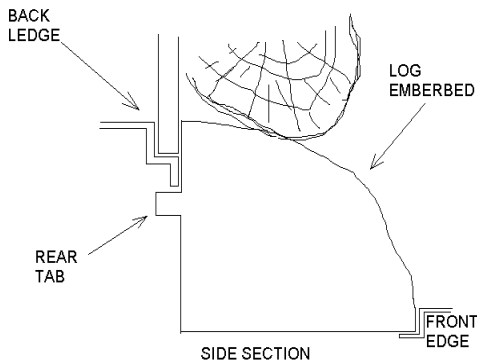

FIGURE 5
3. Pull rear edge of ember bed up and forward by grasping ember bed by the sides (handle the logset only by the emberbed and not the logs) and pulling solidly until the rear tab pops out from under the back ledge, then lift out. (FIGURE 5)
7. Replace the log by inserting front edge and pushing the back down until rear tab snaps under back ledge (FIGURE 5) and the logs are resting against mirror.